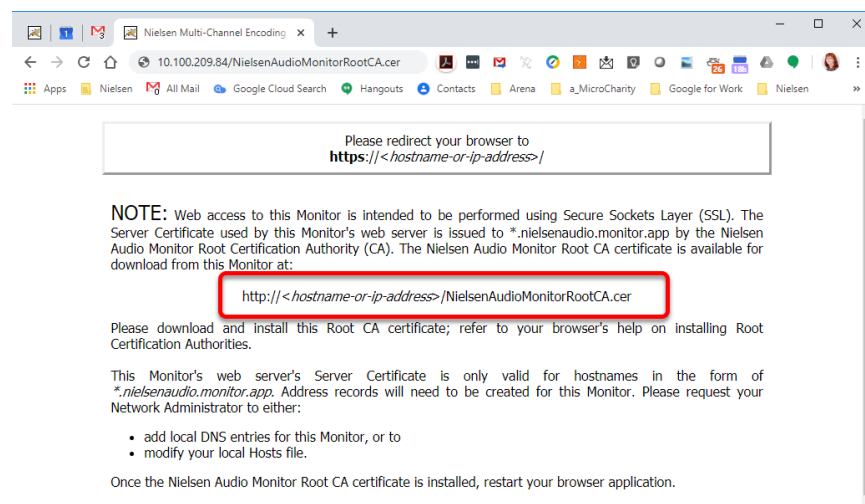

Figure 52: Message to Download Root Certificate
If you use HTTP to access an MCEM monitor, Nielsen recommends that you install the Nielsen 1000-1220 Monitor Root CA certificate on the PCs used to access the monitor. When you use HTTPS to access the monitor, the MCEM monitor uses Secure Sockets Layer (SSL) authentication. Until an SSL certificate is installed on the PC connected to the monitor, accessing the monitor through HTTPS causes a warning message to appear. (See Figure 52) This message provides two pieces of information that you need:
2. In the browser address bar, type the IP address of the monitor when the Ethernet connection is established (Section 2.1.2) and press Enter. An alert appears (Figure 52).